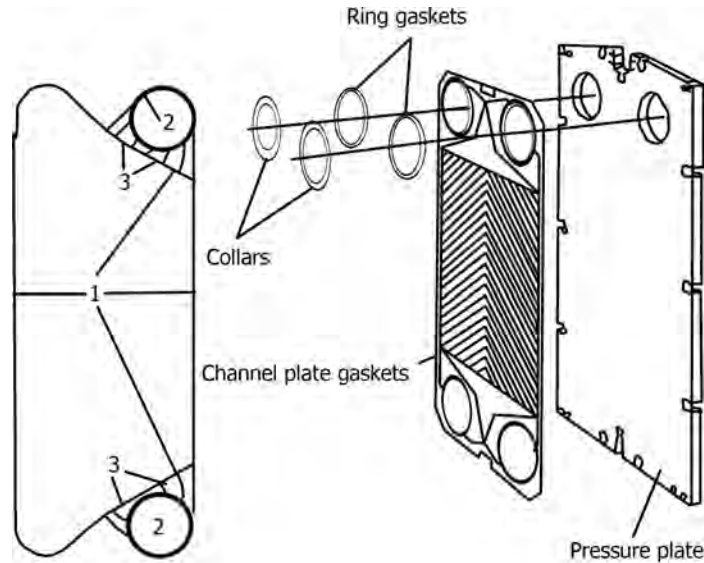

FIGURE 13.11 Gaskets for a plate exchanger.
- The one-piece gasket consists of one field gasket, two ring gaskets and links, shown in Figure 13.11 as 1, 2, and 3, respectively.